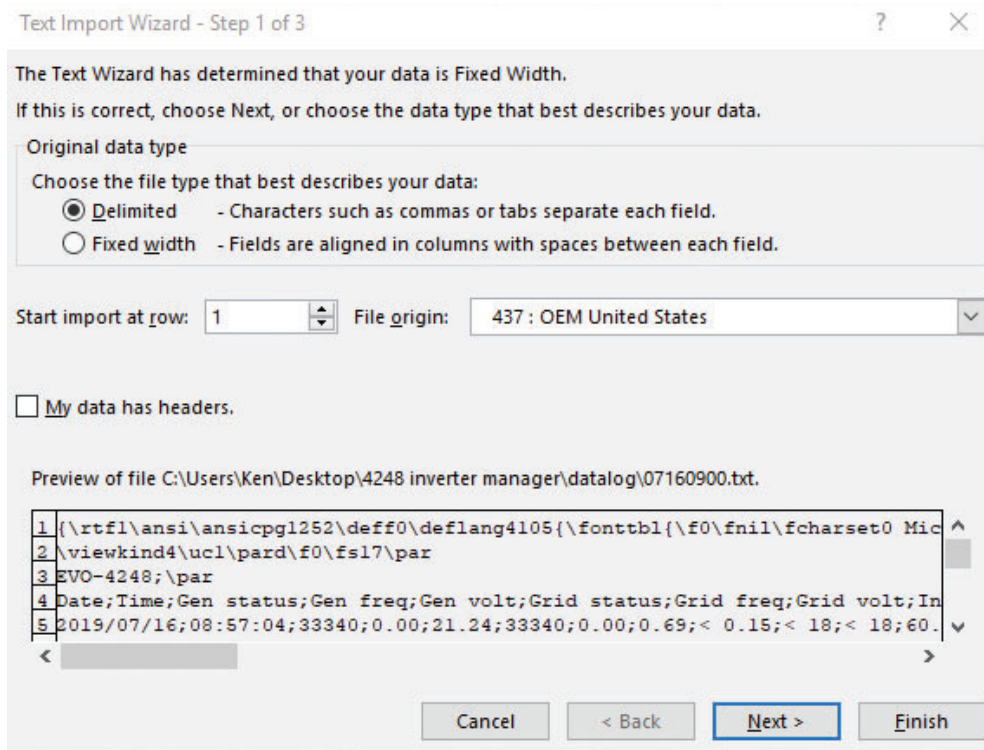

Fig 5.2 Screen Shot of Step 1 of "Text Import Wizard" in Excel
- Text Import Wizard – Step 1 will be shown (*Fig 5.2*). Choose "Delimited" File Type".